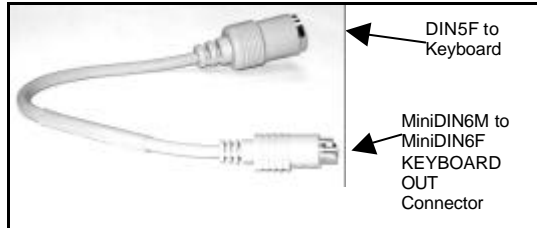

Figure 5-17 The Keyboard Out adapter cable
- Keyboard Out adapter cable – P/N 5CB10243 - See Figure 5-17